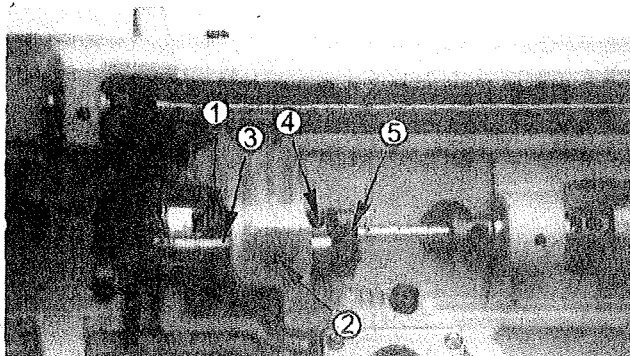
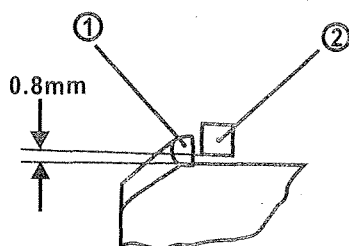

Fig.20
Fig.21
- 2.To adjust the clearance between the hook point and the needle hollow, loosen the two screws (①, Fig. 20) and move the hook to the right or to the left as may require. Please note one of the two screws is placed on the V ditch of hook shaft. Therefore, keep the screw on V ditch during adjustment. Re-tighten the screws.
I) Clearance between the opener and projection of hook (Fig.20 and 21):
1. Loosen the screw (②, Fig. 20)
2. Adjust the clearance between projection of hook (①, Fig. 21) and the opener (②, Fig. 21) by means of movement of thread releasing shaft bushing (③, Fig. 20) to the right or to the left as may be required. The standard clearance between the two parts is 0.8mm as shown Fig. 21.
3. Tighten the screw (②, Fig. 20) securely.
Place the one of screws (④, Fig. 20) which is indicated by "S" on V ditch of the hook shaft.
III) Adjustment of operation: (Fig. 20 and 22)
3. This adjustment can be done by loosening the screw (⑤, Fig. 20)